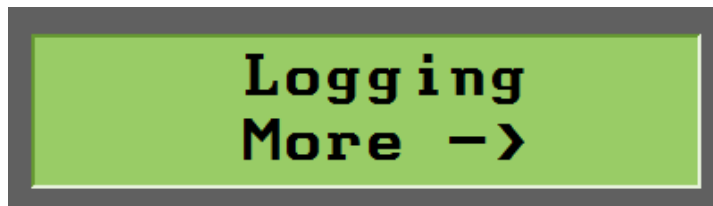

Figure 4-6. Logging Submenu
6. Using the up or down arrow, scroll to find the Logging submenu as shown in Figure 4-6.